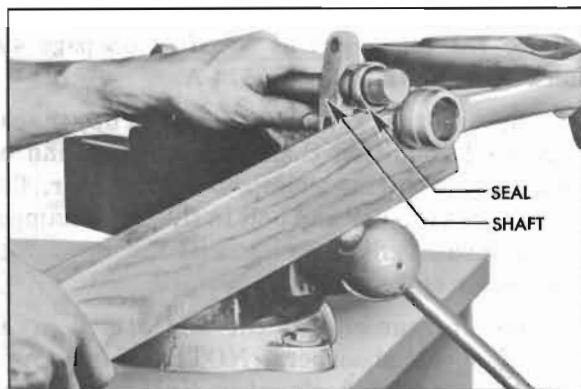

Figure 7-13—Springing Arm Over End of Shaft
5. Insert one end of shaft with the seal in place in one control arm end and force opposite end of shaft into the other control arm end. A piece of wood approximately  $1\frac{1}{4}$ "x $2\frac{1}{2}$ "x $24$ " long can be used as a pry. See figure 7-13.